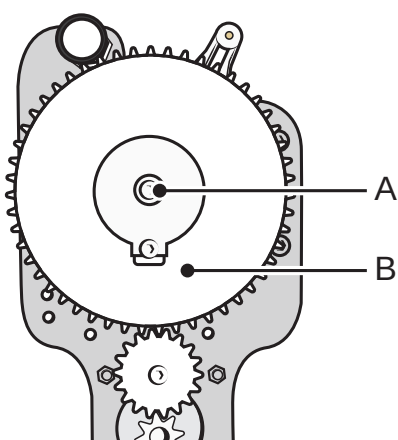
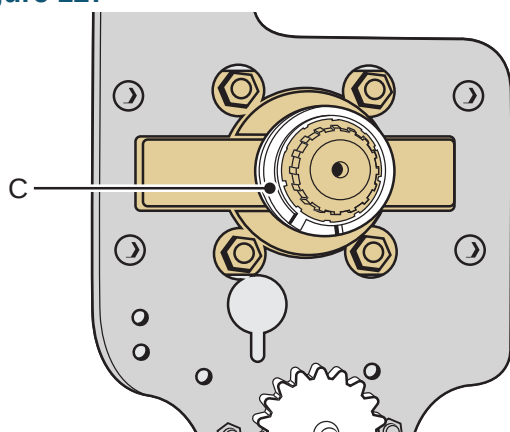

Figure 127
Figure 128
5. Remove the centre screw (A) and lock washer on the large gear wheel (B). See Figure 127. ONLY remove the centre screw.
6. Position the large gear wheel (B) according to Figure 127.
7. Remove the large gear wheel (B).
8. Remove the stop ring (C). See Figure 128.
9. Re-attach the large gear wheel on the mixer splines according to Figure 127.